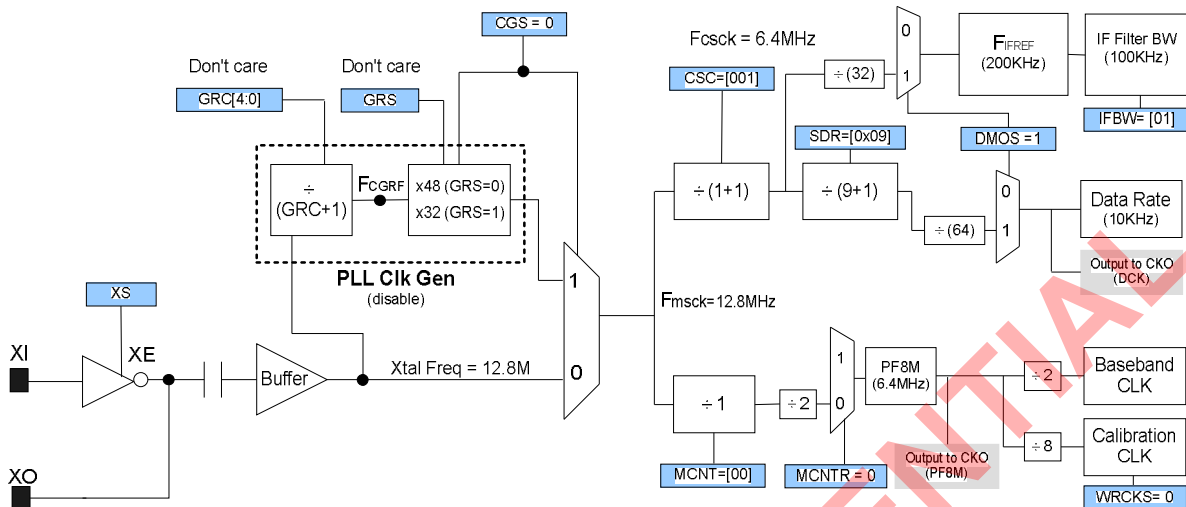

Figure 12.3 Configurations of 10Kbps when IFBW = 100KHz
5. If choosing IFBW = 100KHz, figure 12.3 illustrates the different results of CSC and F_{CSck}.